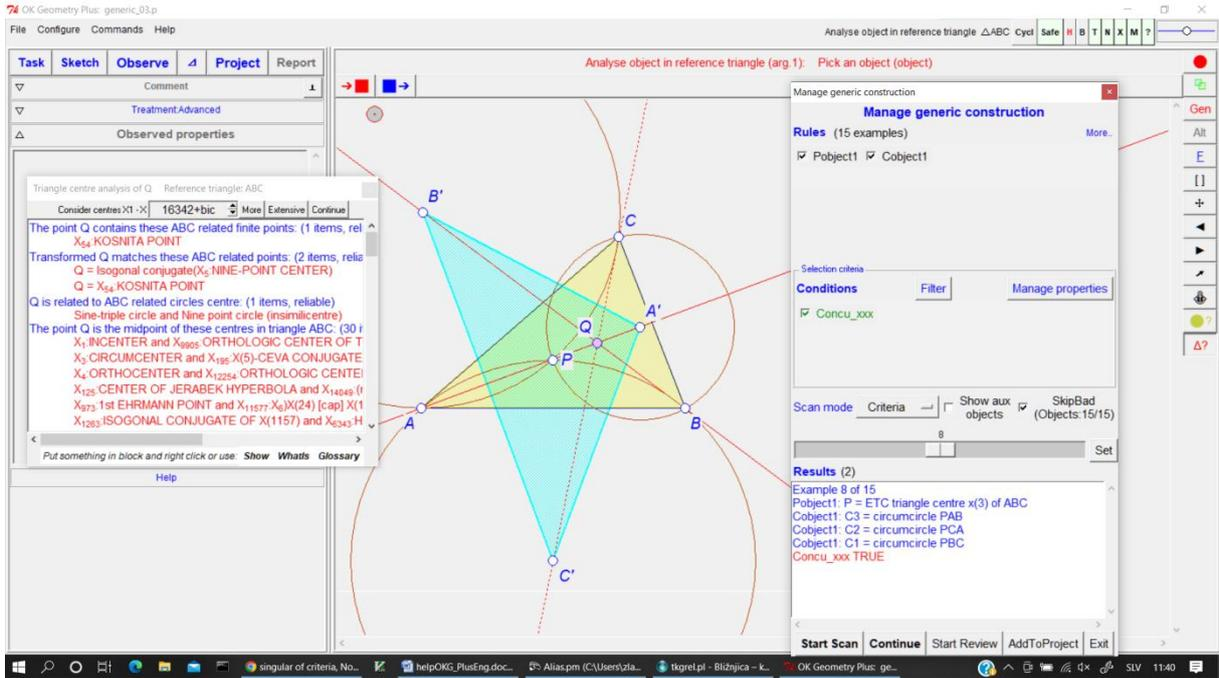

Figure 67
6. If you want to examine the position of point Q in the reference triangle ABC, simply activate the **Analyse object in reference triangle** command (or press the corresponding button on the toolbar in the right) and pick the point Q. Figure 67 shows the output in one of the examples of generic construction (note that we set the number of centres considered to about 16000 and used the **More** option).